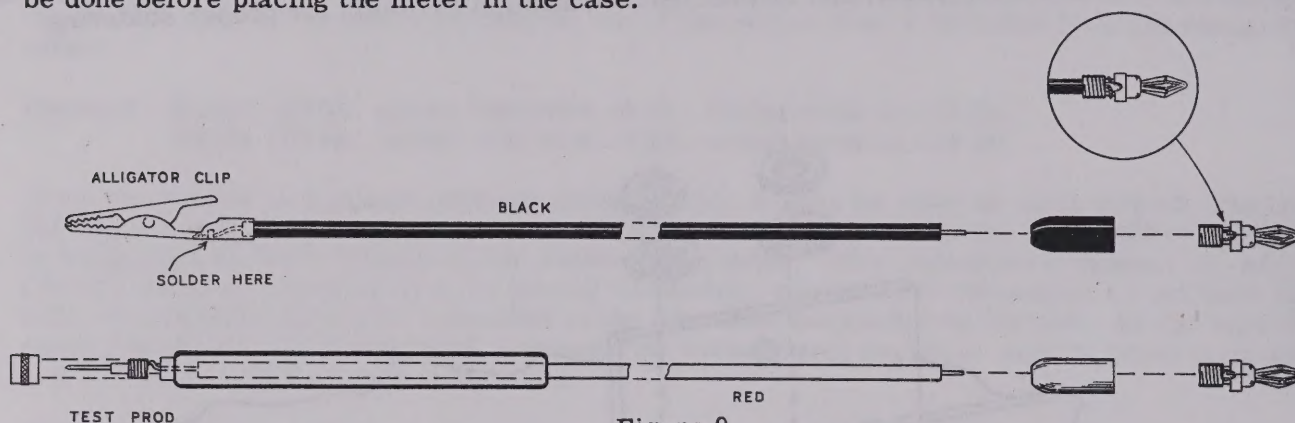

Figure 9
- () Fasten a black banana plug on one end of the black lead and an alligator clip on the other end as shown in Figure 9.
- () Fasten a red banana plug on one end of the red lead and a red probe on the other end as shown in Figure 9.